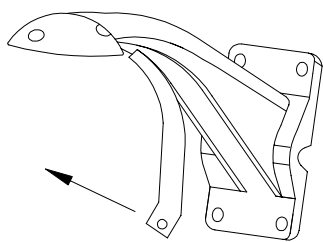

Figure 9
- 6) Take out the cover of the wall-installed bracket. ( Figure9 )